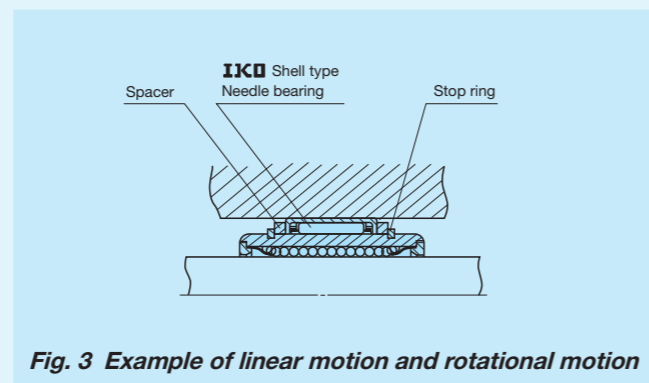

Fig. 3 Example of linear motion and rotational motion
Note (1) For hardness factor, refer to Fig. 3 in page III-5.
LM series units support only linear motion but do not support rotational motion. When performing rotational motion and linear motion of short stroke length, **IKO** Stroke Rotary Bushing is recommended to be used. And, for the usage requiring rotational motion and linear motion of long stroke length, it is recommended to use in combination with **IKO** needle bearing as shown in Fig. 3.